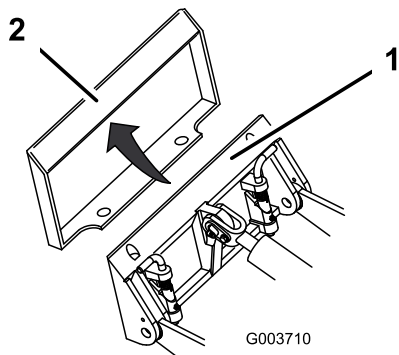

Figure 14
- Position mount plate into the upper lip of the attachment receiver plate (Figure 14).